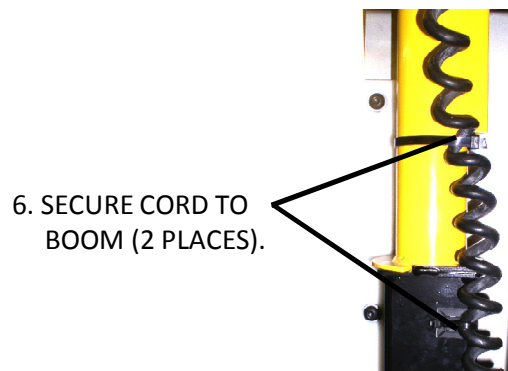

FIG. 7
6. Plug the winch into the installed cord. Use cable tie 3708906 (1), cable tie mount 3707224 (1), and cable tie 3707225 (1) to secure the cord to boom and boom housing as shown in figure 7.